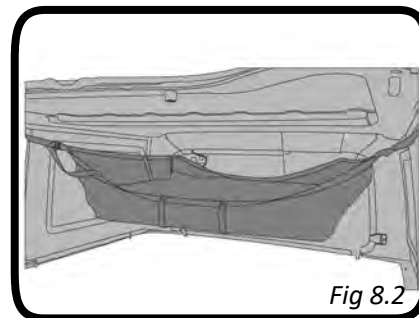

Fig 8.2
2. Make sure cargo net straps are snug. Lift to about head height and place any additional pieces or small doors into the cargo net. A moving blanket is recommended to protect painted items. (*Fig 8.2*)